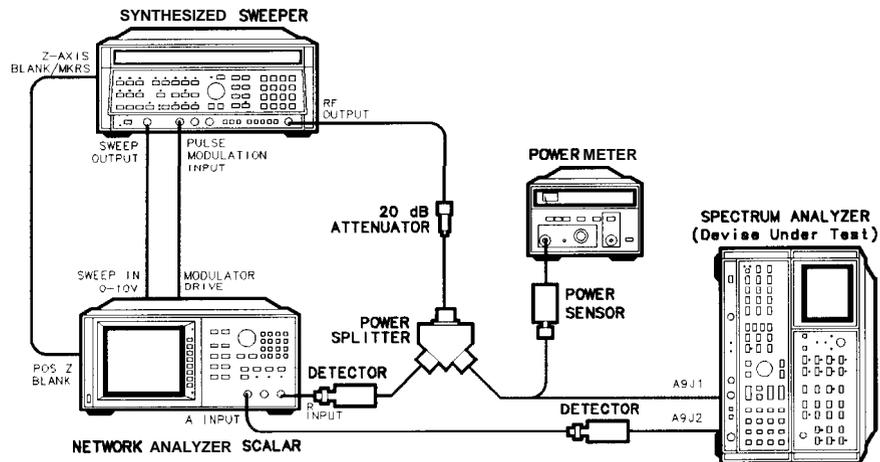
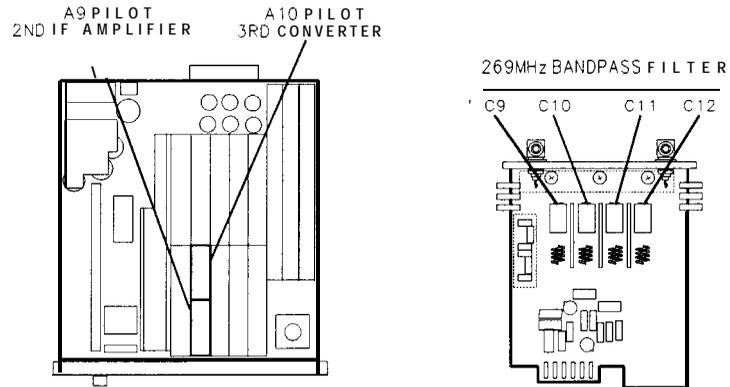
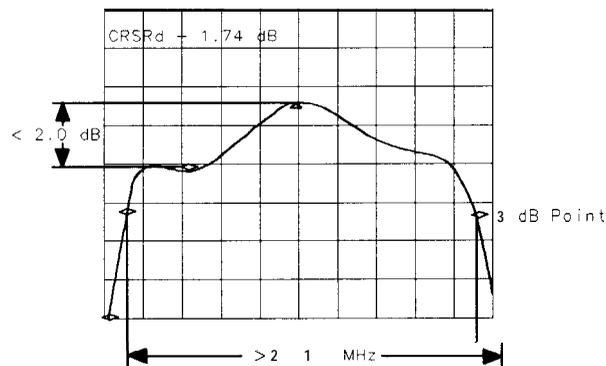

Figure 3-67. Pilot Second IF Amplifier Adjustments Setup
Figure 3-68.
Figure 3-69.
1. Position instrument on right side as shown in Figure 3-67, with bottom cover removed.
3. Connect 20 dB Attenuator and power splitter to RF OUTPUT of synthesized sweeper. Connect one arm of power splitter to R input of scalar network analyzer through detector as shown in Figure 3-67.
9. Connect synthesized sweeper SWEEP OUTPUT (rear panel), Z-AXIS BLANK/MKRS (rear panel), and PULSE MODULATION INPUT (front panel) to proper rear-panel connectors on scalar network analyzer, shown in Figure 3-67.
12. On synthesized sweeper, press **PULSE** (ON), **MKR SWEEP**, and **ΔF**. Set SWEEP TIME to 500 ms.
14. Adjust A9 269 MHz Bandpass Filter, A9C9, A9C10, A9C11, and A9C12, for best bandpass filter response with gain of greater than + 10 dB (above REF 1 line). See Figure 3-68 for location of adjustments. Figure 3-69 shows typical response when the bandpass filter is properly adjusted.